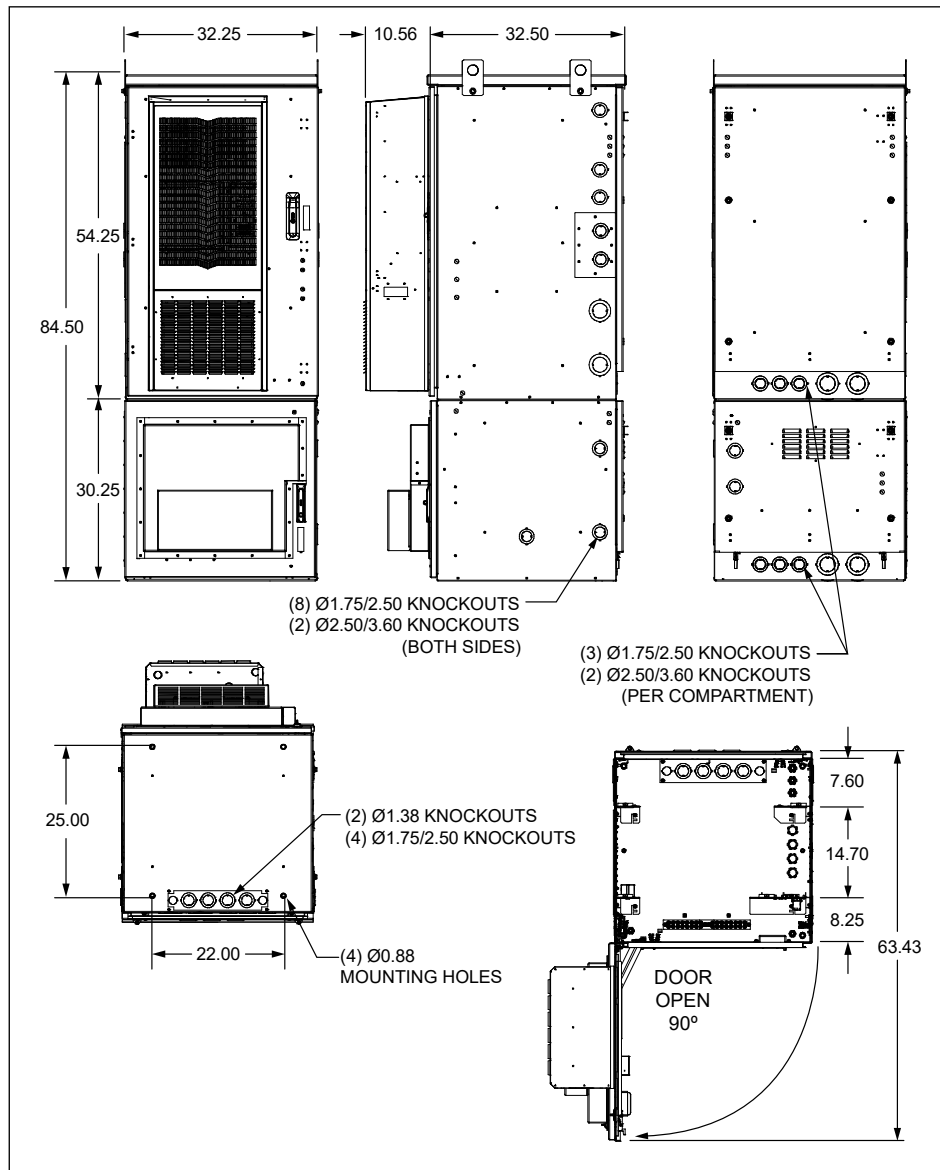
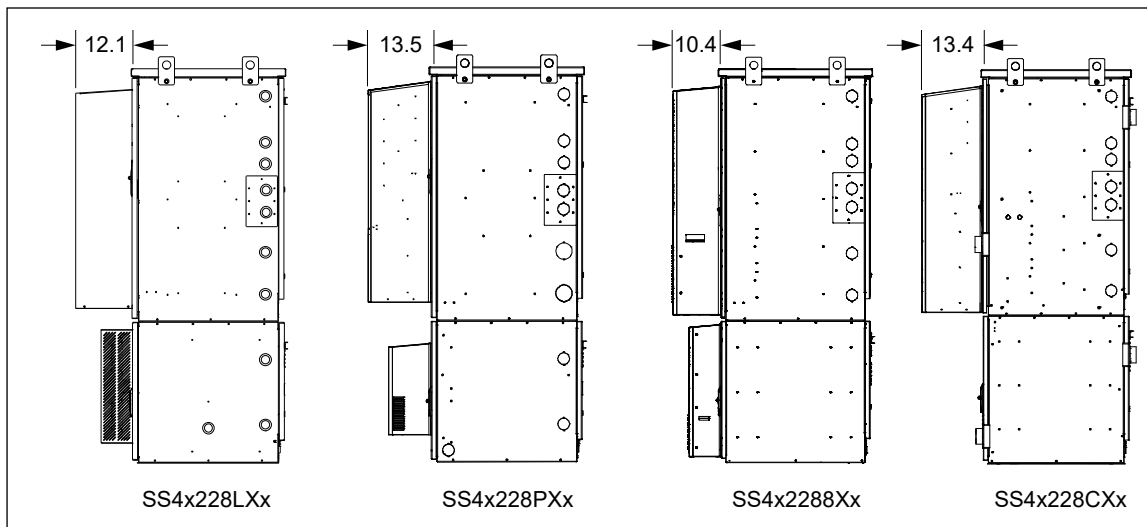

Figure 2 CUBE-SS4B228xxx Dimensions (in inches)
Figure 4 CUBE Dimensions (in inches) of Thermal Units
Figures 2 and 3 show dimensional views of each size. With the exception of the external thermal system, these dimensions are common to the other models of that size. Figure 4 shows the added dimensions of the thermal units. The supplemental documentation that ships with the CUBE includes a diagram of the CUBE components.
- Insert the lifting sling connecting links securely through each of the lifting brackets as shown in Figure 4.